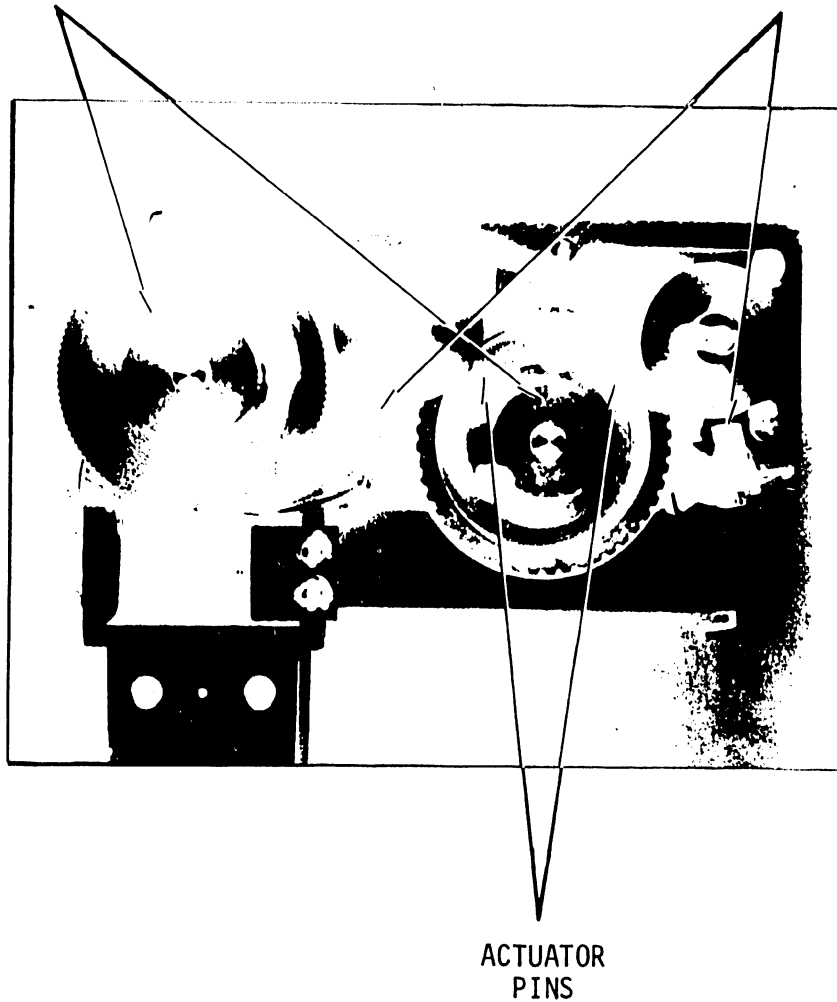

FIGURE 26
1) The following is a procedure for aligning Y axis home position. Refer to Figures 26, 27 and 28.
- 2) The following is a procedure for aligning the X axis home position. Use Figures 26, 27 and 28 for reference.